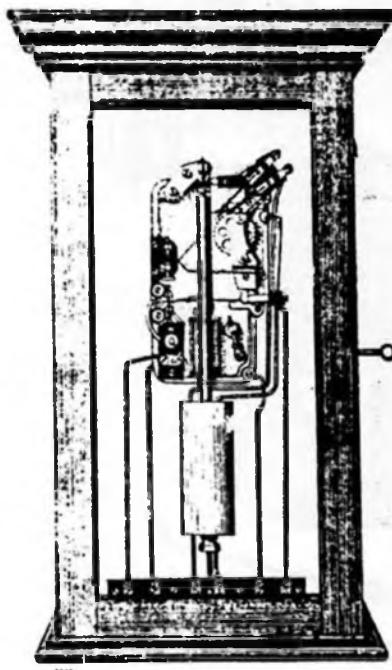

FIG. 1.—“CLOCK NO. 46”. GENERAL APPEARANCE
**1. Description.**—“Clock No. 46”, the general appearance of which is illustrated in Fig. 1, is an electrically driven master clock with a  $\frac{1}{2}$ -second beat-time mechanism, and is used to control chargeable-time electric telephone exchanges. It provides the following facilities:—